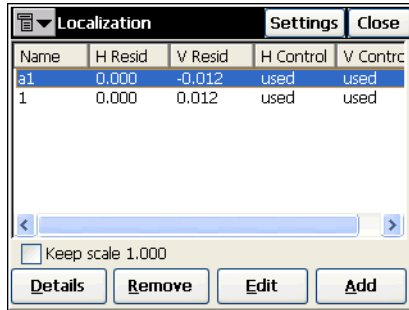

Figure 6-1. Localization
1. Select **Survey ► Localization**. On the *Localization* screen, tap **Add** (Figure 6-1).